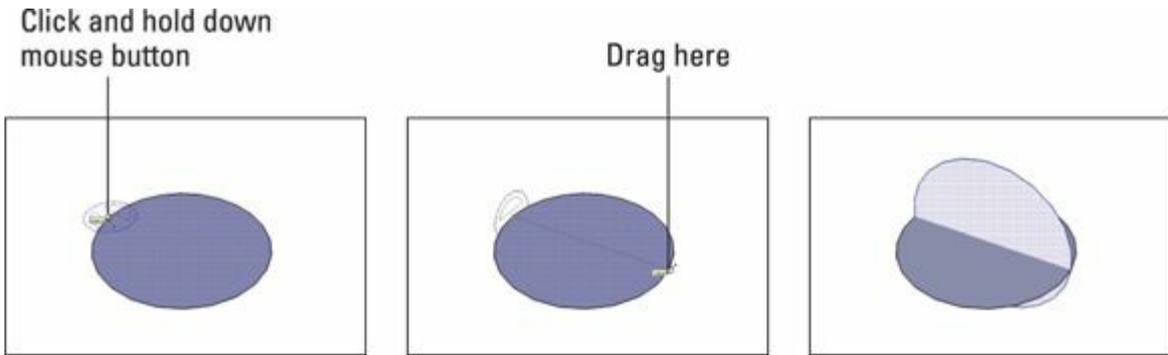

FIGURE 6-3: Using the Rotate tool to make a rotated copy of a circle.
2. **Rotate a copy of your circle by 90 degrees, as shown in Figure 6-3.**